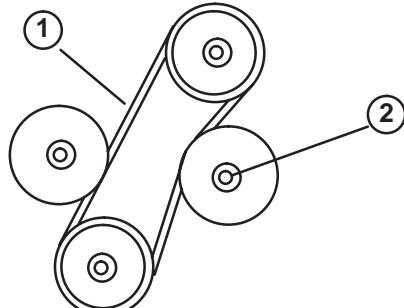

Figure 54
3. Belt should deflect 1/4 in. (6 mm) midway between the pulleys with 5 lb. force (22 n) (Fig. 54). If deflection is incorrect, proceed to step 4. If correct, proceed to step 5.
4. Loosen locknut securing adjustable idler pulley (Fig. 54). Push idler pulley against belt until proper deflection is achieved and tighten idler pulley locknut (Fig. 54).
2. Loosen locknut securing adjustable idler pulley, slide pulley away from belt, and remove belt from pulleys (Fig. 54).
3. Install new belt and adjust for proper tension. Push idler pulley against belt until belt deflects 1/4 inch (6 mm) with 5 lb. force (22 N·m) midway between top pulley and stationary idle pulley. Tighten idler pulley locknut to secure adjustments (Fig. 54).